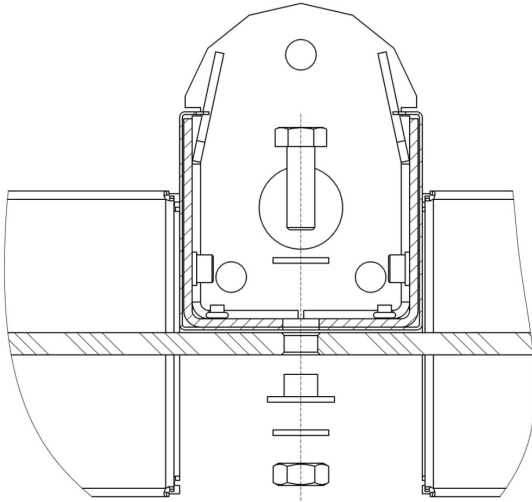

Figure 29. Filling glass fixing in the ST-01 central post
7. Remove the front panels (8) from both side posts.
8. Using S17 horn-type and socket wrenches, unscrew and remove 6 M10×30 bolts with washers, plastic bushings, and nuts for fixing the filling glass (two in each bracket of the side posts and two in the central post) (see Fig. 29, 30).